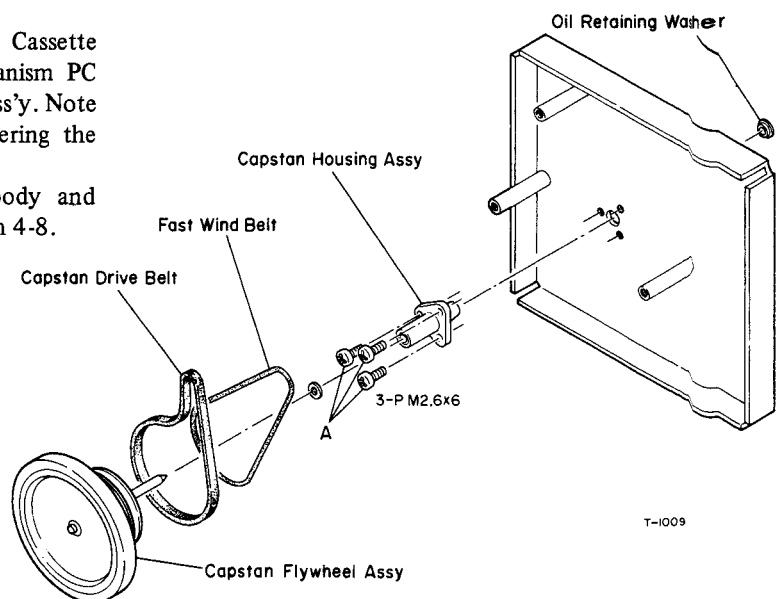

Fig. 4-11 Capstan Drive Ass'y
Refer to Fig. 4-11.
3. Apply a film of light grease to the well of the Flywheel Bearing (See Fig. 4-11.)